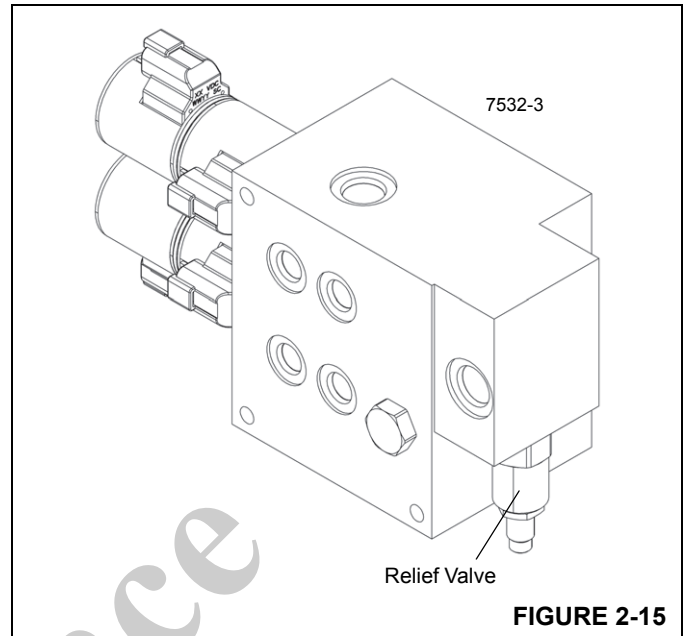

FIGURE 2-15
2. With engine at full RPM, retract counterweight cylinder and set relief valve on counterweight valve (Figure 2-15) to 1750 psi \pm 50 (12.1 MPa \pm 4); turn in to raise or out to lower pressure.